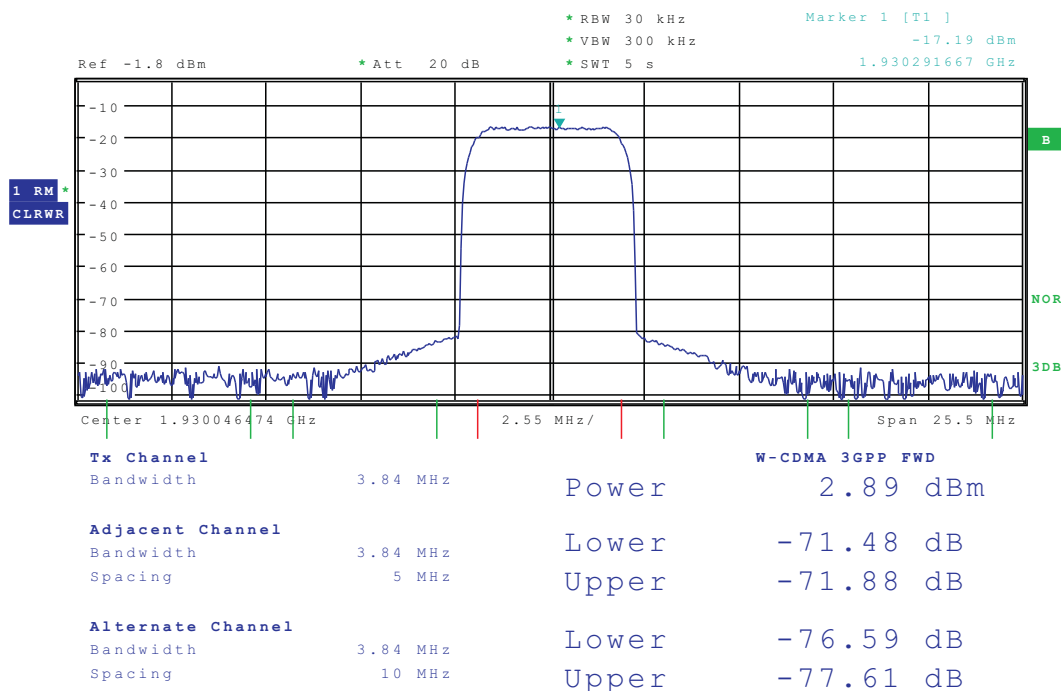

Figure 12. TSW3085EVM RF Output
- Verify the spectrum using a spectrum analyzer at the RF output of the TSW3085EVM (J7) is as shown in Figure 12.